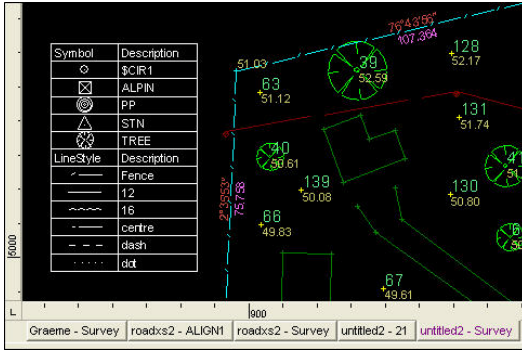

Figure 9-104. Example of Symbols and Line Styles, and Their Descriptions in the Same Table
- Line styles and symbol tables can be built together by clicking **Append Symbols**, which opens the *Symbol Table* dialog box (Figure 9-104).